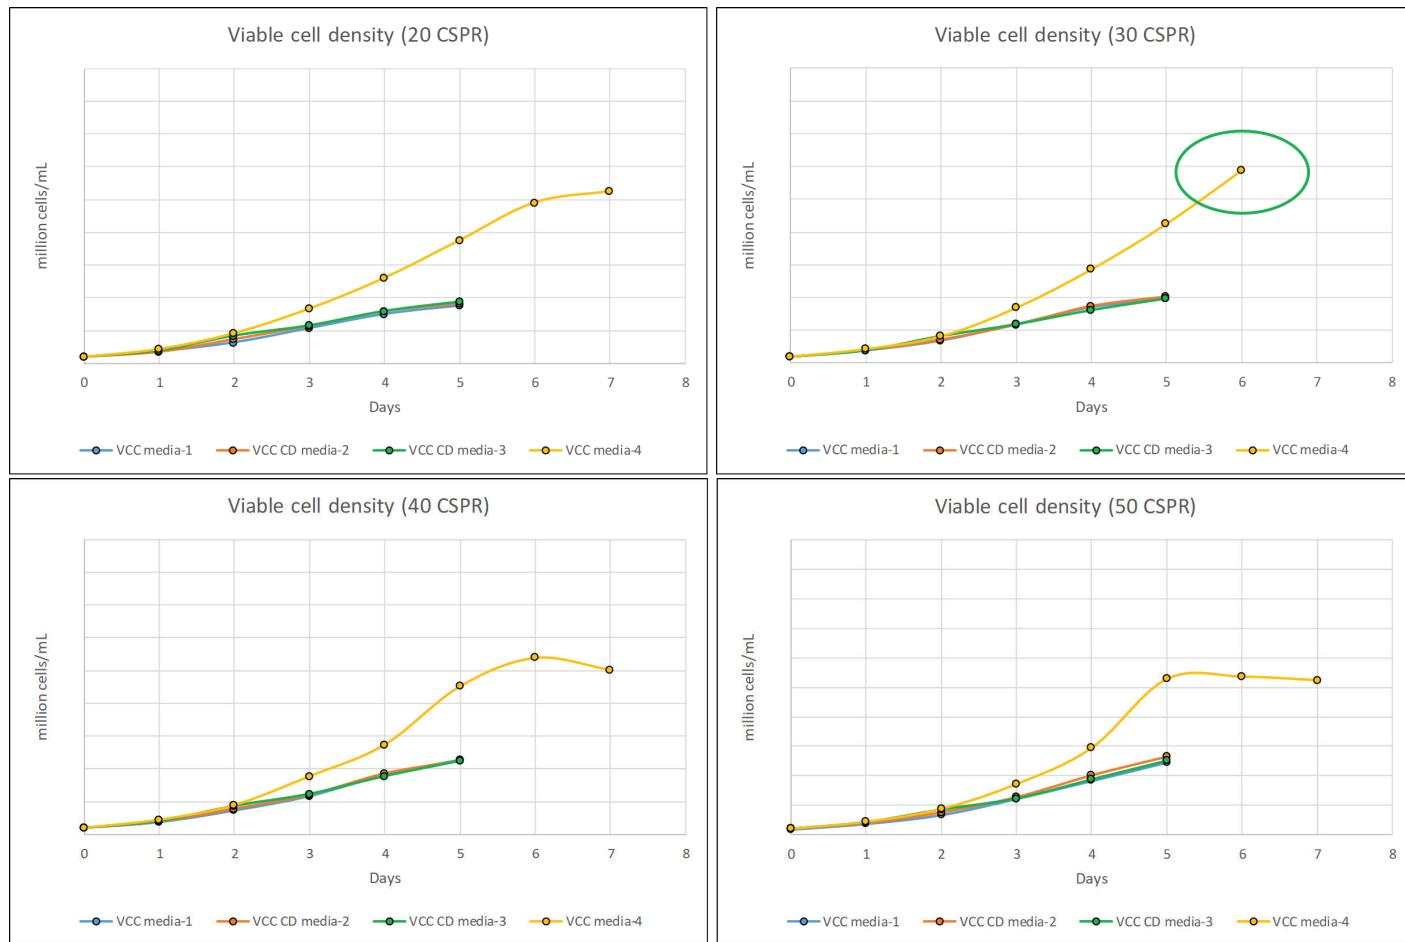

Figure 3: Cell-Specific Perfusion Rate (CSPR) screening at shale flask scale. CSPR between 20-30 (pL/cell/day) was idle for this process.
- **Cell-Specific Perfusion Rate (CSPR) Screening:** From the CSPR screening at shale flask scale, it is observed that 20-30 (pL/cell/day) CSPR is the best fit for the process (Figure 3). This understanding is helpful to determine the optimal perfusion rate at N-1 and N stage.